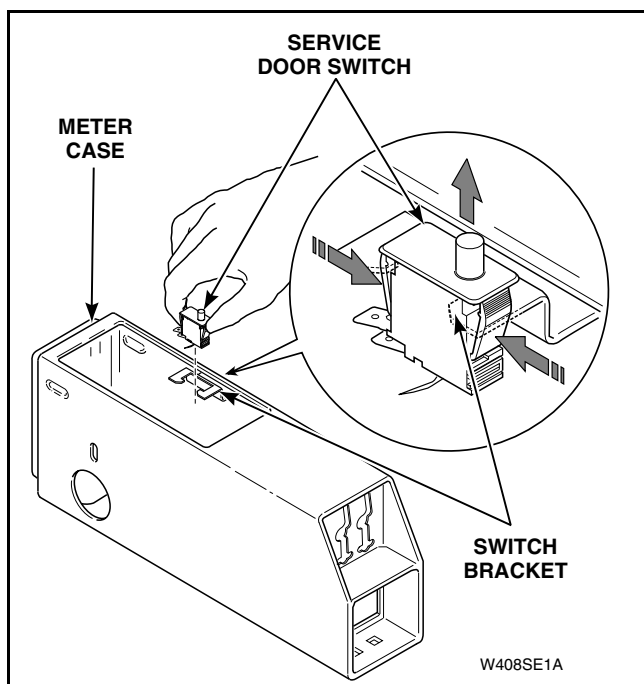

Figure 11
- Press in on locking tabs of service door switch and remove switch from bracket on meter case. Refer to *Figure 11*.
- u. Reinstall service door switch and wire harness into meter case bracket. Refer to *Figure 11*.